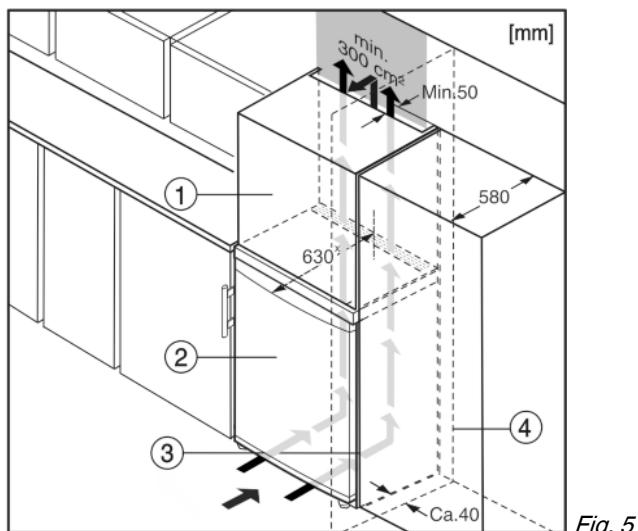

Fig. 5
- (1) Stack cabinet
- (2) Appliance
- (3) Kitchen cabinet
- (4) Wall
The appliance can be inserted into a row of kitchen units. To match the appliance Fig. 5 (2) to the height of the row of units, a suitable stack cabinet Fig. 5 (1) can be fitted above the appliance.
When installing with kitchen units (max. depth 580 mm), the appliance can be positioned directly next to the kitchen cabinet Fig. 5 (3). The appliance will project by 34 mm* at the sides and 50 mm* in the centre of the appliance in relation to the kitchen cabinet front.
If the appliance is installed with the hinges next to a wall Fig. 5 (4), the distance between appliance and wall has to be at least 40 mm. This corresponds to the projection of the handle when the door is open.